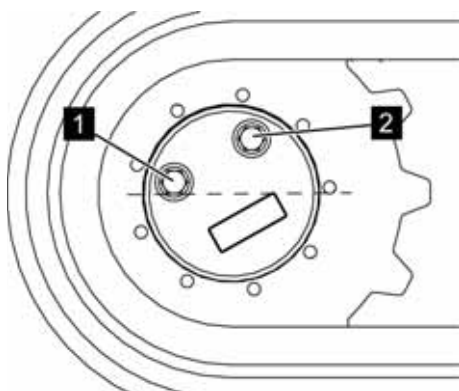

Fig. 143: Tightening the screw connections
9. ➔ Re-tighten the screw connections (Fig. 143/1 and 2) with the seals or copper washers.